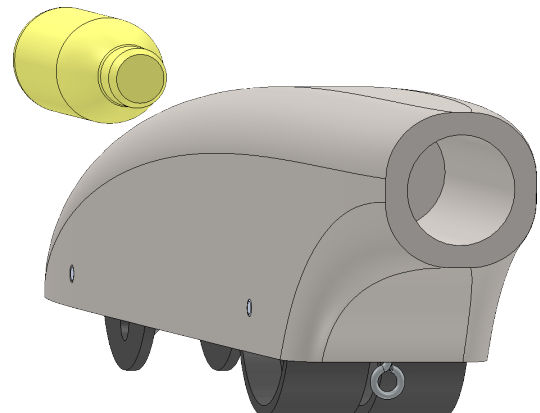

Fig. 19
Step 2. Rotate view to view **bottom of cartridge hole in Body**, hold down middle mouse button (wheel) and drag to rotate view, Fig. 19.
Step 4. Select your **CARTRIDGE** file and place approximately where the Cartridge is positioned in Fig. 19.